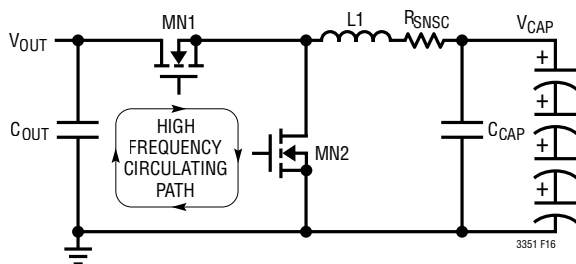

Figure 16.
2. Referring to Figure 16, keep MN1, MN2 and  $C_{\text{OUT}}$  close together. The high di/dt loop formed by the MOSFETs, Schottky diodes and the  $V_{\text{OUT}}$  capacitance should have short, wide traces to minimize high frequency noise and voltage stress from inductive ringing. Surface mount components are preferred to reduce parasitic inductances from component leads. Connect the drain of the top MOSFET directly to the positive terminal of  $C_{\text{OUT}}$ . Connect the source of the bottom MOSFET directly to the negative terminal of  $C_{\text{OUT}}$ . This capacitor provides the AC current to the MOSFETs.